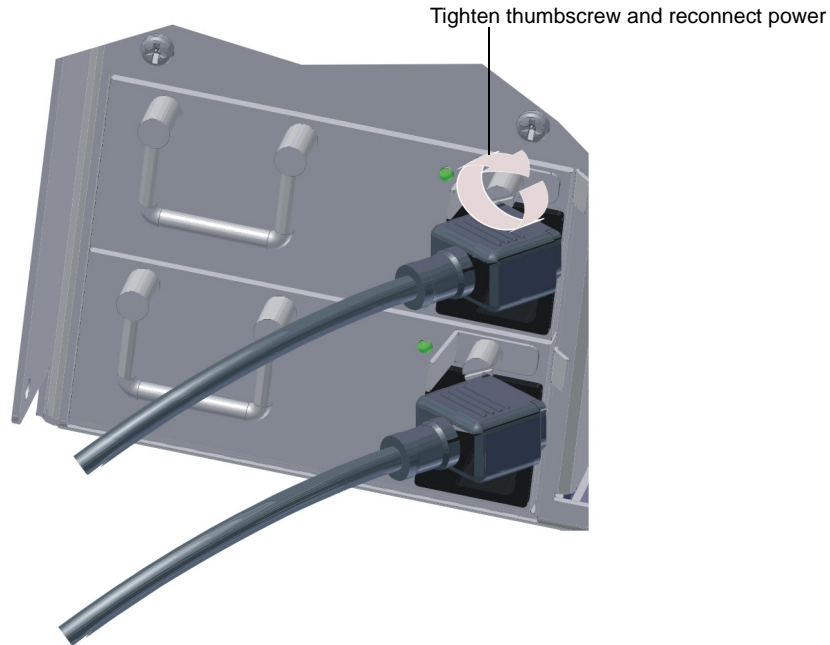

Figure 4-26 New DSL100 Power Supply Installed and AC Cable Reconnected
5. Tighten the thumbscrew by turning it clockwise, then reconnect the power, as shown in Figure 4-26.